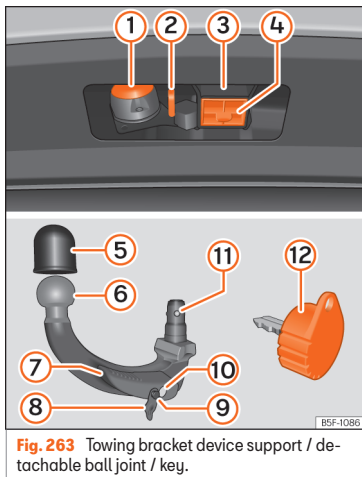

Fig. 263 Towing bracket device support / detachable ball joint / key.
Key to »» Fig. 263
- Remove the hook housing cap (4) »» Fig. 263 downwards.